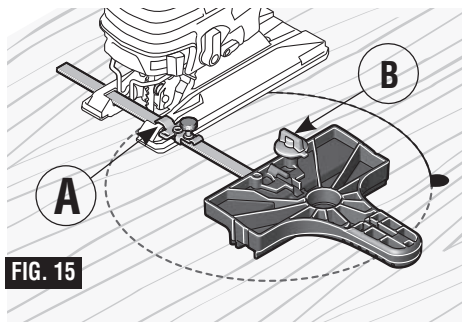

FIG. 15
4. Insert guide bar through a clamp, then through the slots provided in foot, from either side of foot (Fig. 15). (If possible, place second clamp on bar from opposite side of jig saw).